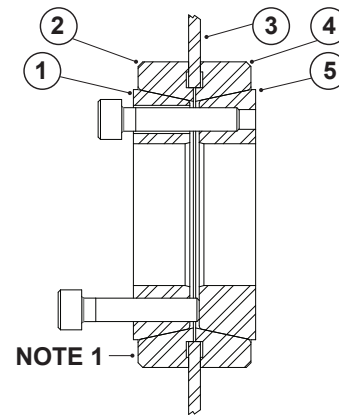

Figure 2
### REMOVAL (Refer to Figure 2)
4. Grind a chamfer on the ends of the two screws. Transfer these screws into the push-off threads of front inner ring (item 1) (see Figure 2).